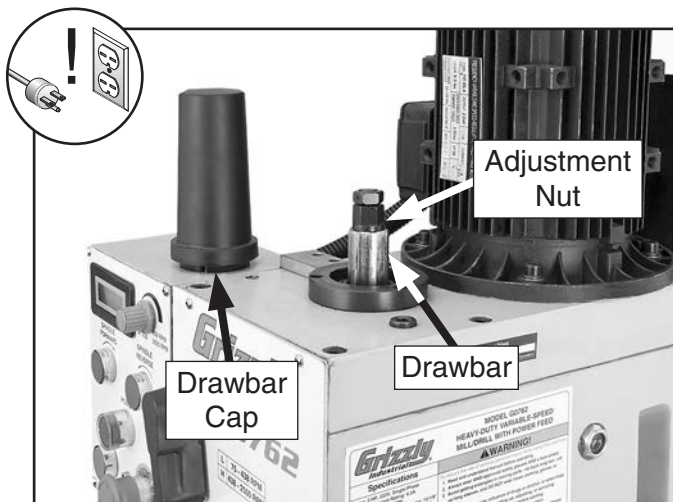

Figure 31. Drawbar components.
2. Remove drawbar cap, as shown in **Figure 31**.
Note: Height of drawbar inside spindle can be changed by rotating adjustment nut (see **Figure 31**).